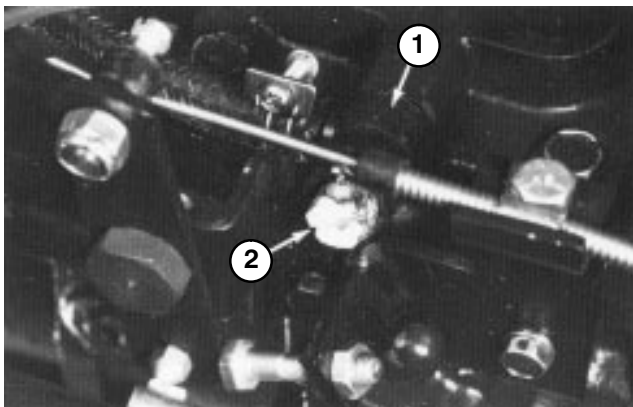

Figure 32
4. Open the air bleed screw on the fuel injection pump (Fig. 32) with a 12 mm wrench.